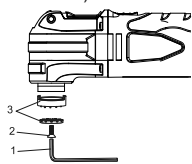

Figure 1
1. Install the plunge cutting saw blade for wood in the tool. (Figures 1 and 2)
1. Install the half-circle saw blade for wood and drywall in the tool. (Figures 1 and 2)
1. Install the sanding pad on the oscillating tool. (Figures 1 and 2)
1. Install the scraper blade on the oscillating tool. (Figures 1 and 2)